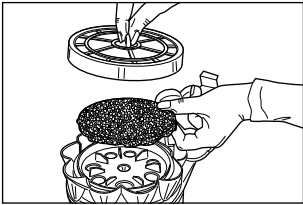

Fig. 9
- To clean the container (A) fully, it is necessary to disassemble it completely, as described here below:
- open the filter lid by means of the apposite lever (Fig. 8) and then extract the filter beneath and the sponge filter (Fig. 9).